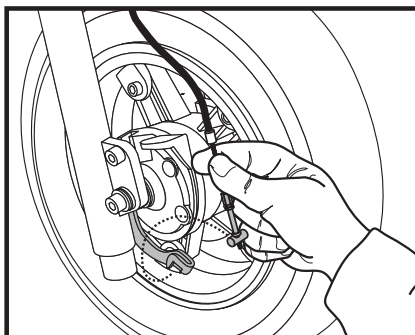

Figure 22. Brake Cable
2. Remove the brake cable. See figure 22.
11. Reattach the brake cable. See figure 22.